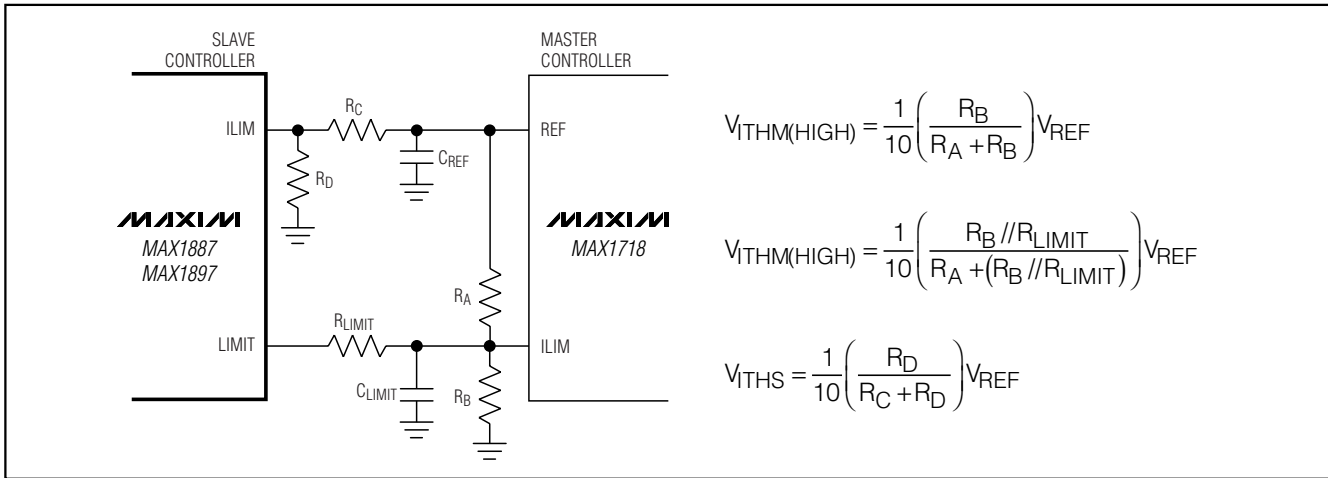

Figure 5. Setting the Adjustable Current Limits
where VITHM, the master's current-limit threshold, is typically 1/10th the voltage seen at the master's ILIM input (VITHM = 0.1 × VLIM(MASTER), see the master controller's data sheet). Connect a resistive voltage-divider from the master controller's internal reference to GND, with the master's ILIM input connected to the center tap (Figure 5). Use 1% tolerance resistors in the divider with 10µA to 20µA DC bias current to prevent significant errors due to the ILIM pin's input current:
where VITHS, the slave's current-limit threshold, is precisely one-tenth the voltage seen at the slave's ILIM input (VITHS = 0.1 × VLIM(SLAVE)). Connect a second resistive voltage-divider from the master controller's internal reference to GND, with the slave's ILIM input connected to the center tap (Figure 5). The external adjustment range of 400mV to 1.5V corresponds to a
Now select the resistive-divider values (R_A and R_B in Figure 5) to set the appropriate voltage at the master's ILIM input:
Select the resistive-divider values (R_C and R_D in Figure 5) to set the appropriate voltage at the slave's ILIM input:
- 4) Determine R_{LIMIT} (Figure 5) from the above equation: